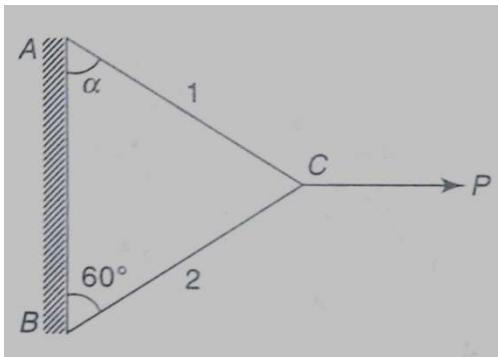

Figure 1.14
20. A force P is applied at point C as shown in (Figure 1.14). Determine the value of angle α for which the larger of the string tension is as small as possible and the corresponding values of tension in the strings 1 and 2.